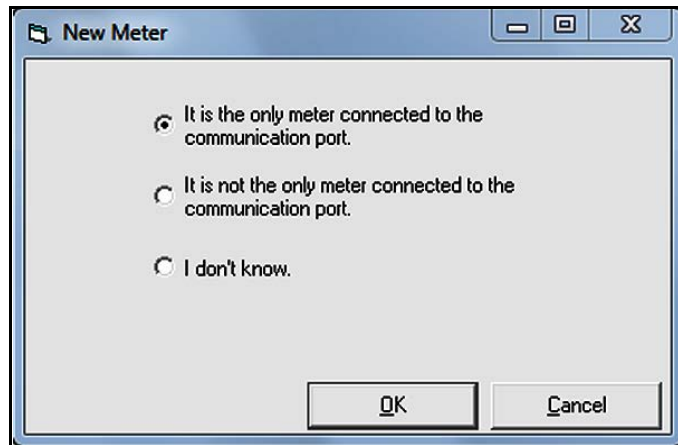

Figure 32: The Only Meter Dialog Box
6. After responding to the previous dialog box, the dialog box shown in Figure 32 below opens. In most instances, users connect their PC to one instrument only via a direct serial cable. Therefore, select the “It is the only meter connected to the communication port” radio button and then click on the **[OK]** button.